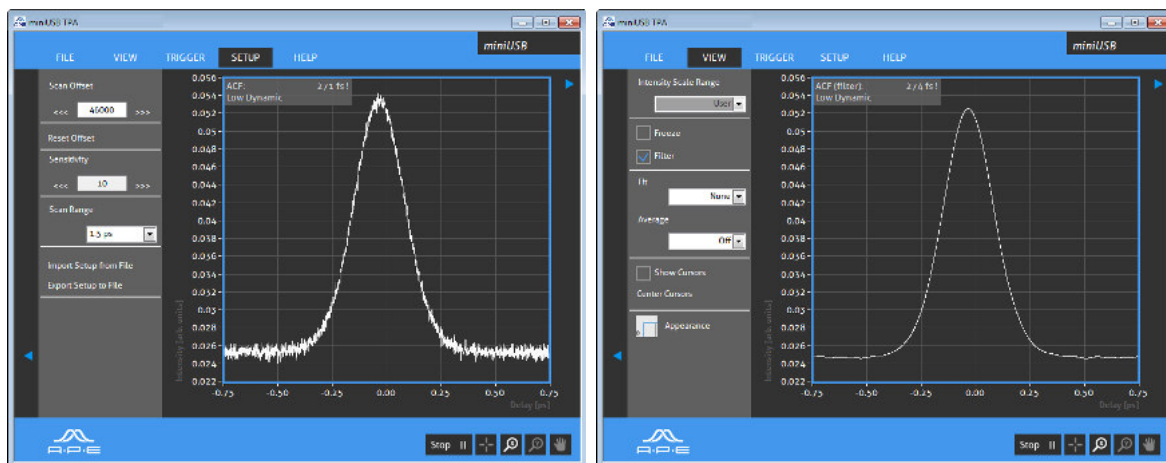

Figure 5.1.: ACF measurement with filter OFF (left) and filter ON (right)
2. During measurements mode the autocorrelation function is modulated with a fringe pattern. The filter suppresses this modulation. (This is not the case in triggered mode.) A comparison of an ACF with the filter switched on and off is pictured in Figure 5.1. Also note that the filter is automatically switched off in triggered measurement mode.